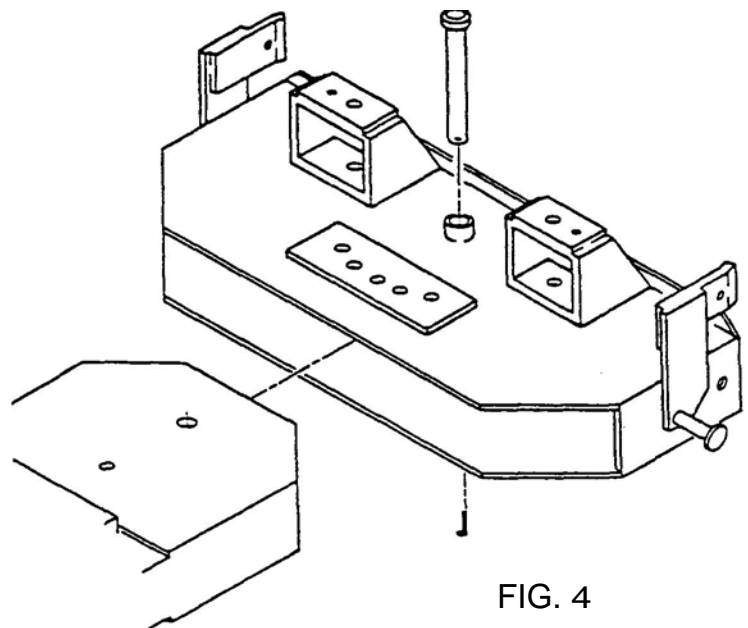

FIG. 4
- (2) Slide the pivot onto the front of the sub-frame and secure with a 1 1/4" x 6 1/2" pin and a 1 1/4" x 2" cotter pin. As shown in FIG. 4